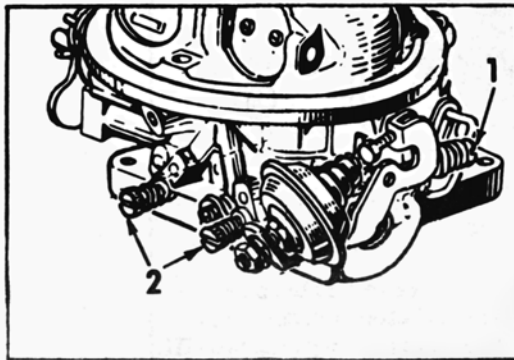

Figure 2
V. IDLE ADJUSTMENT. (See figure 2.)